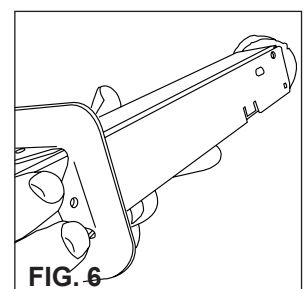

FIG. 6
4. Insert pathway through wall (with black device label facing upwards) using previously installed wall plate and gasket as a stop (See Fig. 6).